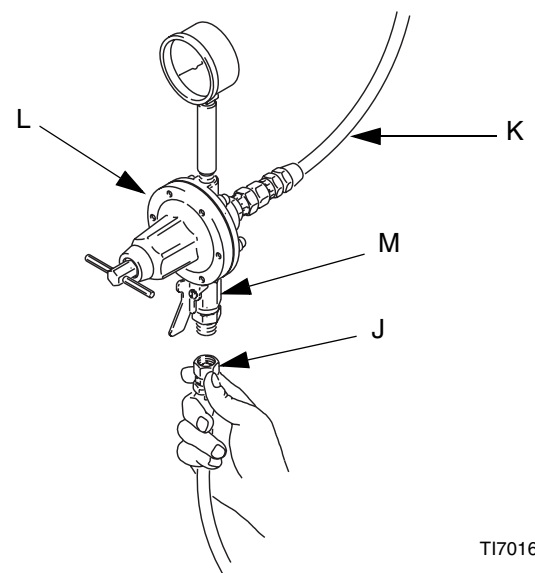

FIG. 9: Connect Fluid Hose
Install a fluid regulator (L) on the fluid line to control fluid pressure to the gun. See FIG. 9.
Install a fluid shutoff valve (M) to shut off the fluid supply to the gun. See FIG. 9.
2. Connect the other end of the fluid hose (J) to a regulated fluid supply outlet (M). See FIG. 9.